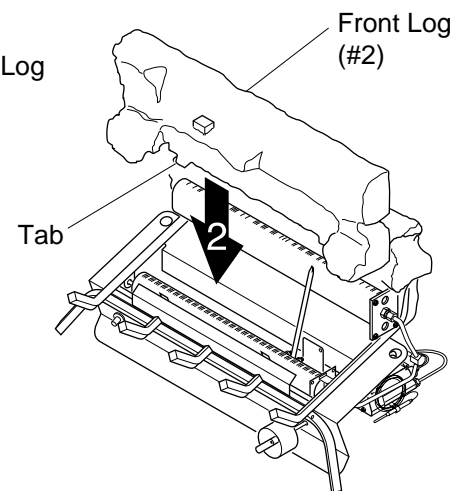

Figure 23 - Installing Front Log
2. Slide front log (#2) into place behind front burner. Make sure tabs at bottom of log are behind front burner (see Figure 23).